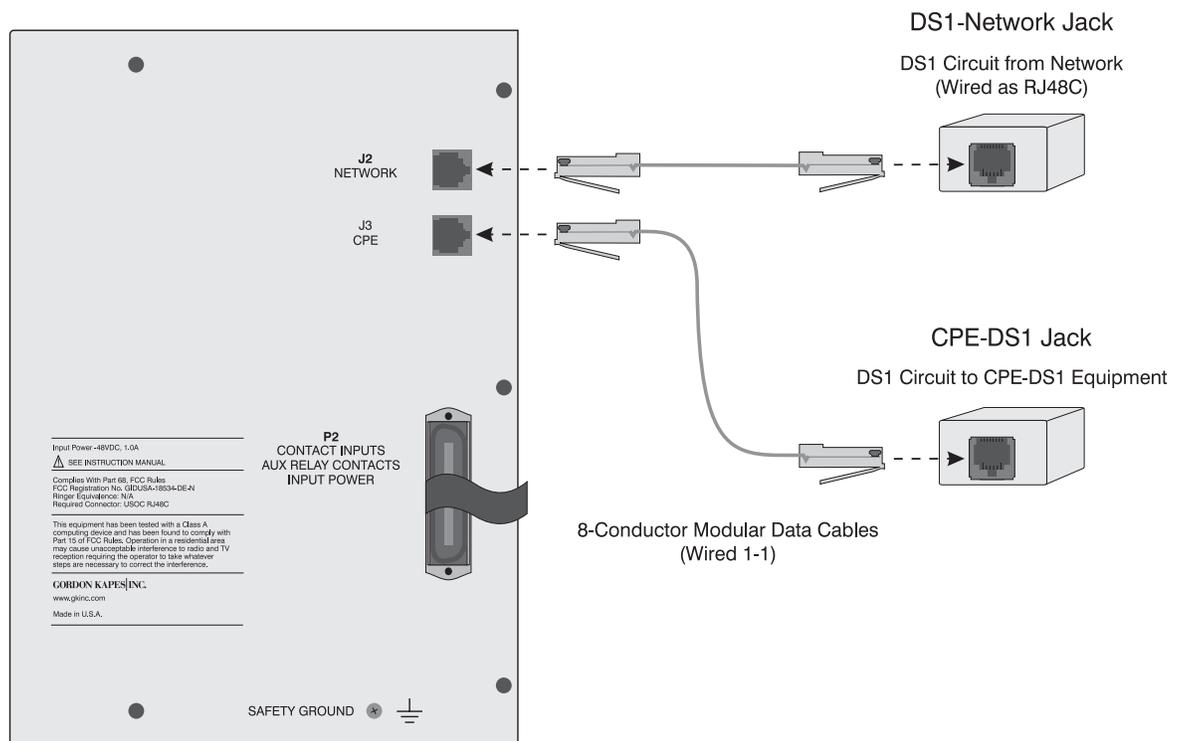

Figure 2-11. DS1 Network and CPE-DS1 Connections
- ❑ Using one of the modular data cables from the installation kit, connect the DS1 network to jack J2 on the right panel of the System 920i enclosure. Jack J2 is shown in Figure 2-11.
- ❑ Using the other modular data cable from the installation kit, connect CPE DS1 to jack J3 on the right panel of the System 920i enclosure. Jack J3 is shown in Figure 2-11.